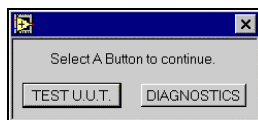

Figure 2
- 4.4 Click on **TEST UUT** to begin test. See Figure 2.